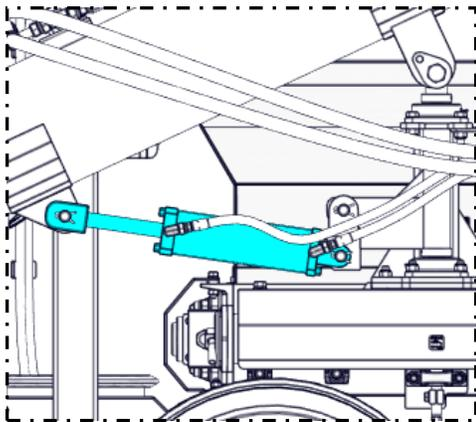

Figure 4.14
- C) Once opened, you can use the hydraulics to lift the auger up until it is cleared to swing into position. The in feed auger can now be lowered into the needed position (Figure 4.14).